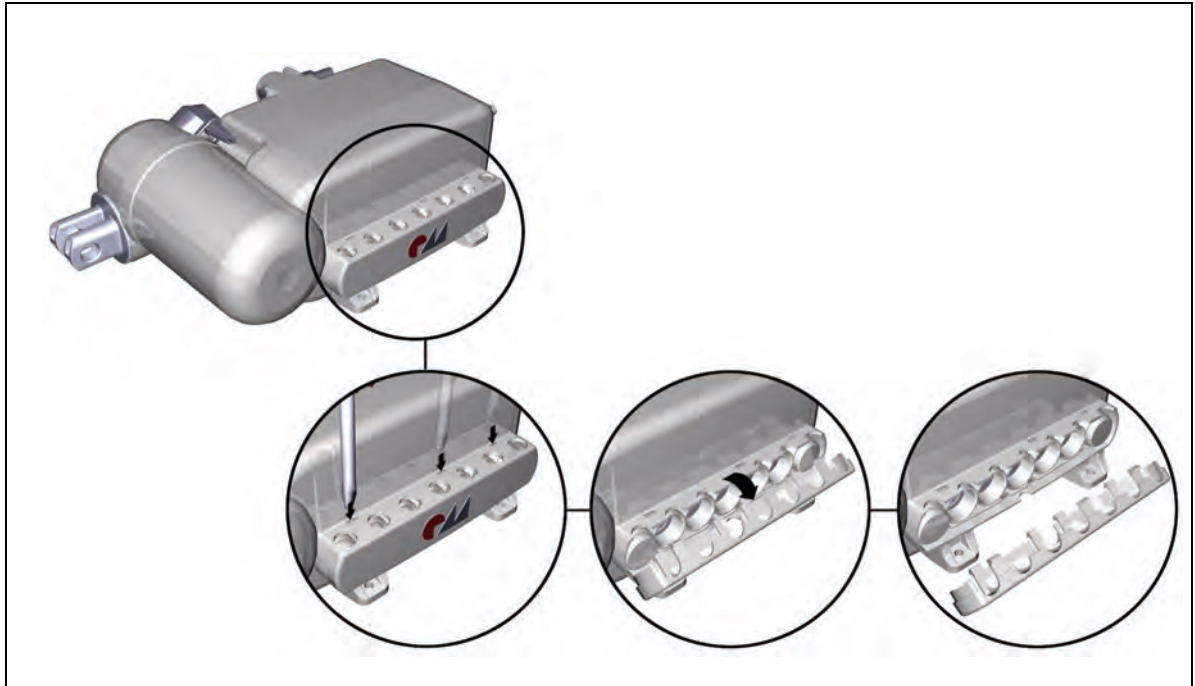

Figure 15 Opening the shield cover on the MCL II control unit
- 2 Use a suitable tool to press the three locking clips down in the notches as shown in Figure 15. At the same time, tilt the shield cover forward so that the clips come out of the notches.
- 2 Use a suitable tool to press the three locking clips down into the notches as shown in Figure 15. At the same time, tilt the shield cover forward so that the clips come out of the notches.
- 2 Open and remove the shield cover (refer to Figure 15).